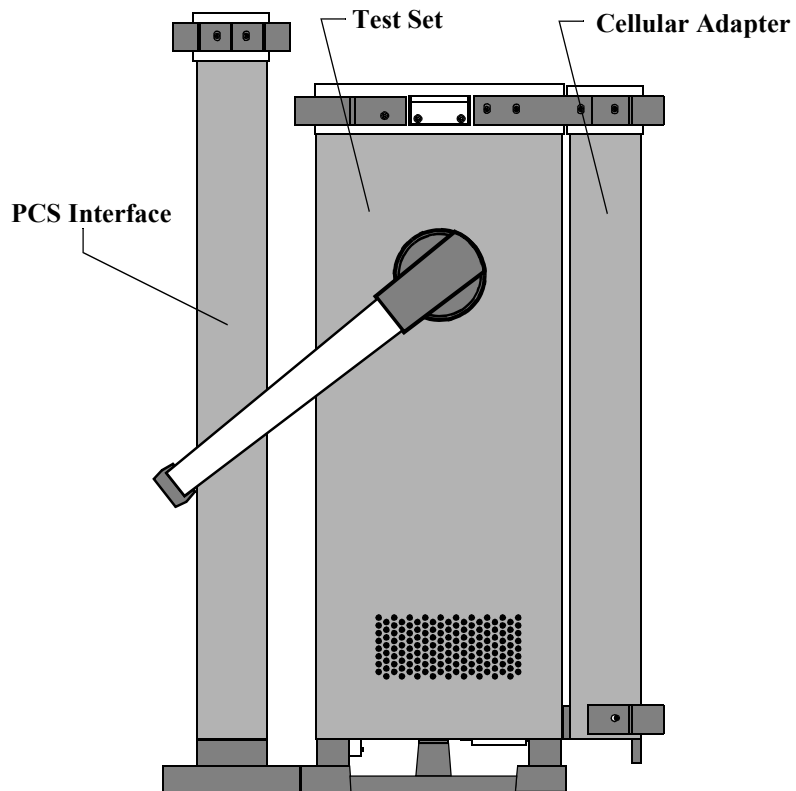

Figure 11
- b If you are placing the Test System vertically (as is often done when putting the equipment on the floor), the PCS Interface's rear feet must be placed on the same surface as those of the Test Set. After placement, rotate the handle of the Test Set downwards to provide support for the PCS Interface. Refer to figure 11.